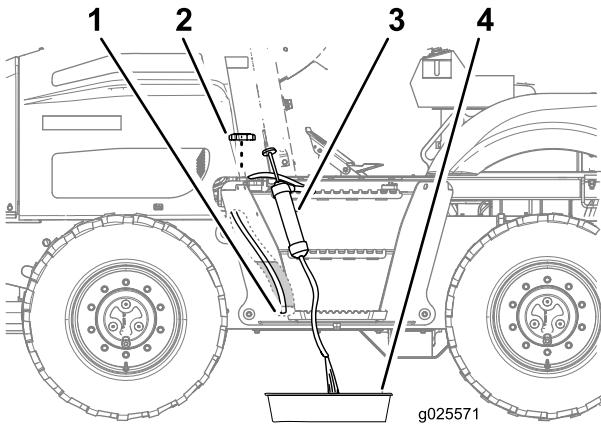

Figure 72
1. Remove the fuel cap from the fuel tank (Figure 72).
- 2. Route the intake hose of the siphoning equipment through the filler neck of the fuel tank and to the bottom of the tank (Figure 72).
- 3. Direct the discharge hose of the siphoning equipment into a drain pan (Figure 72).
- 6. Install the fuel cap onto the filler neck of the fuel tank (Figure 72).